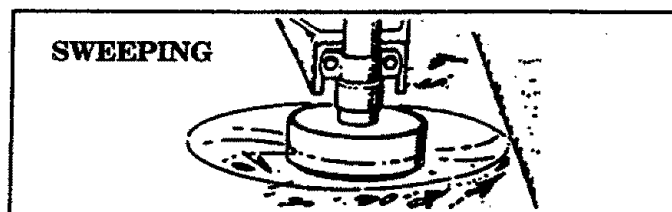

Figure 12
4. **SWEEPING** – Figure 12 . The fanning action of the rotating line can be used for a quick and easy clean up. Keep the line parallel to and above the surfaces being swept and move the tool from side to side.